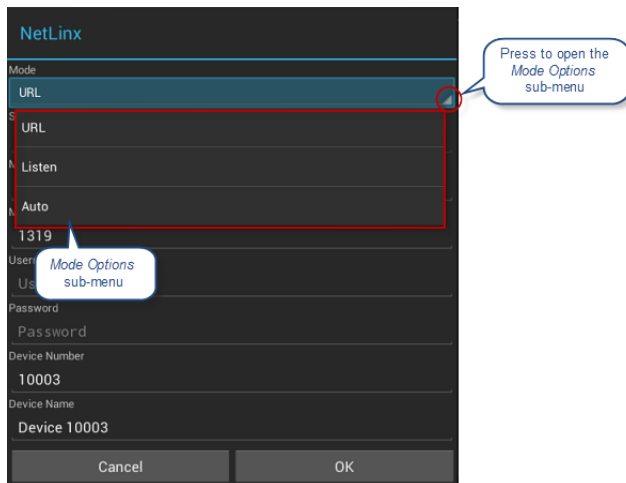

FIG. 54 NetLinX page - Mode Options sub-menu
1. In the *NetLinX* page, press **Mode** to open the Mode Options sub-menu (FIG. 54):